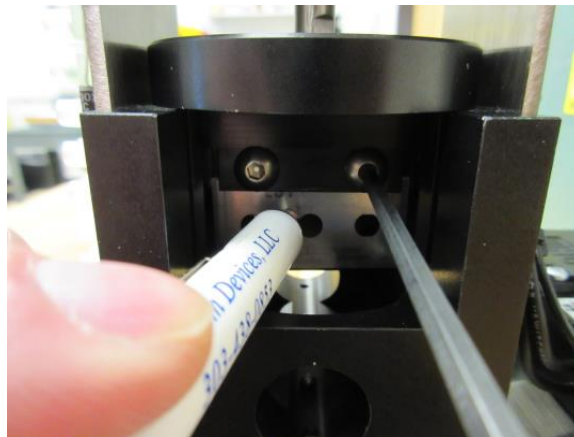

Figure 5.2.1
- Ensure air and power supply has been disconnected from the unit prior to removing the cover. Remove the two (2) button head cap screws securing the cover to the base plate using a 1/8 hex key. Lift cover out of the way.
- Place a magnetic tip screwdriver (*provided*) on the cutter blade, then remove two (2) mounting screws using a 3mm hex key wrench. (*T-handle preferred*) *Figure 5.2.1*